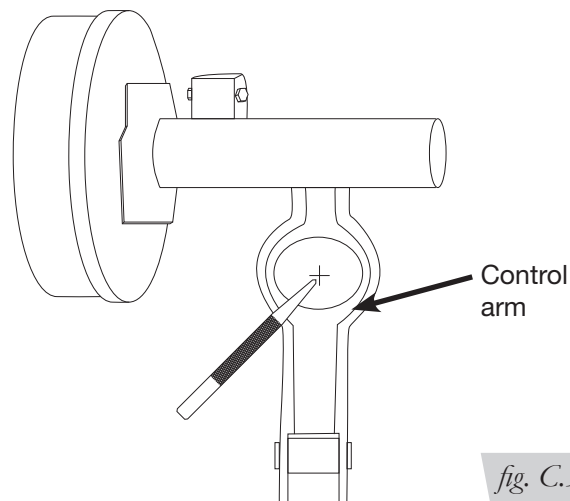

fig. C.3
5. Center punch and drill 1/4" diameter pilot hole then drill 3/8" diameter final hole to allow attachment of the air line to the air cylinder (Fig. C.3).